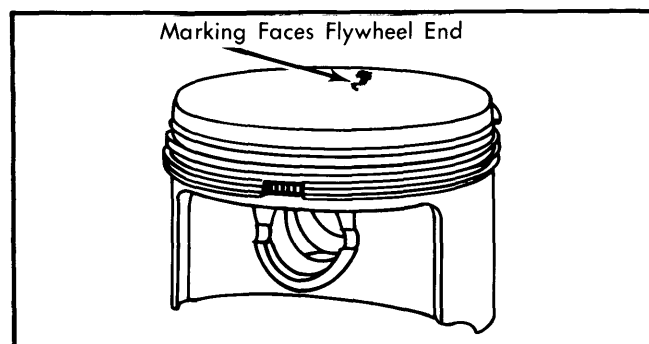

Fig. 11 Turbo Engine Piston Shape
6) Install camshaft sprockets and check chain alignment. See Fig. 11. Install heat exchanger, then chain tensioner. Slide chain guides on mounting studs. Lift retaining spring with screwdriver and slide chain guide into place. Install chain ten-